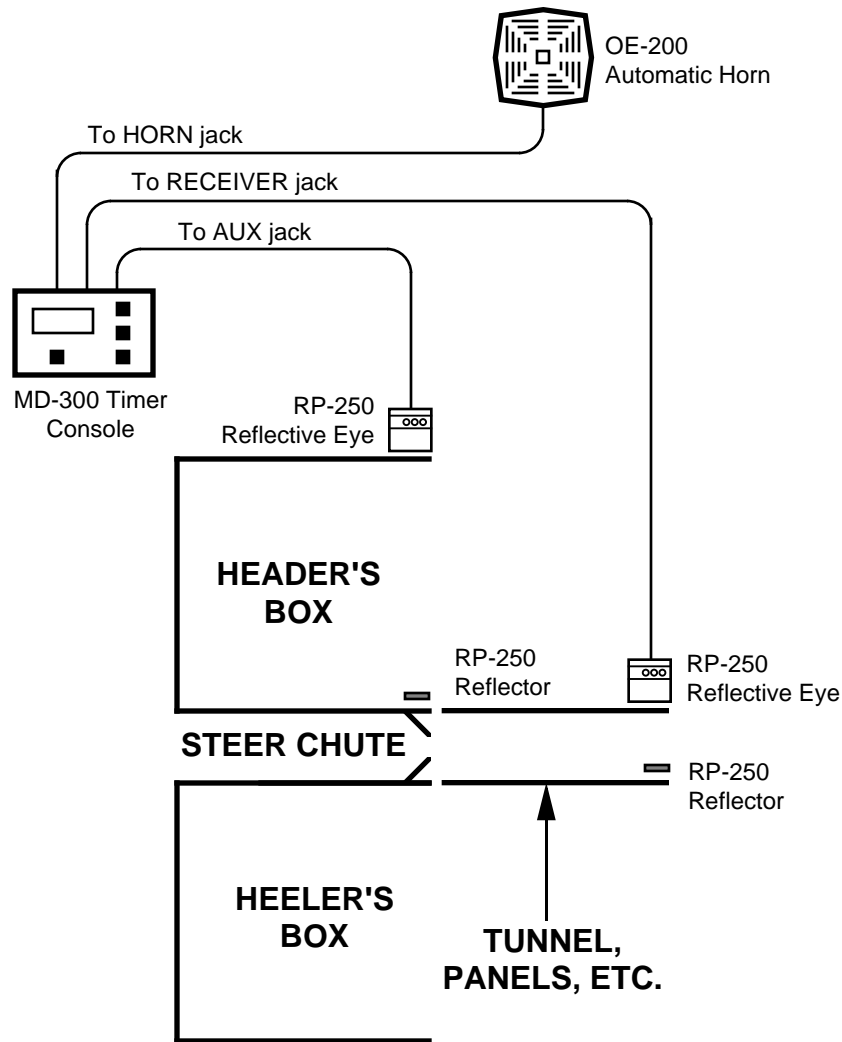

Figure 2, Using an RP-250 for Steer Score Line
If using an additional RP-250 Electric Eye Barrier to form the score line instead of using the MD-300 Electric Eyes, place the reflective electric eye and reflector on opposite sides of the steer alley to form an invisible score line at the desired distance in front of the release chute. Adjust the height of the electric eye and reflector to ensure the beam is broken by the steer's body--not its legs. See Figure 2 for a sample arena setup using the RP-250 for the steer score line.
- 1) You can mount the electric eye and reflector just a few feet apart at the end of a runway or tunnel which forces the steer through the light beam. See Figure 2.